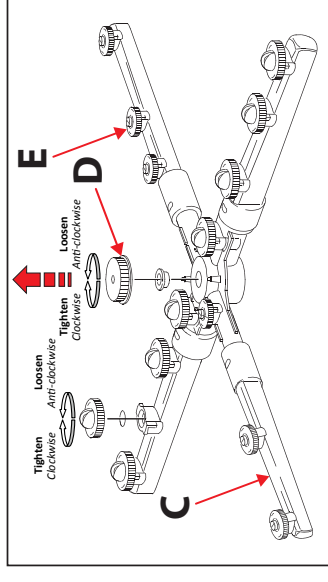

Fig.3
9. Remove the fixing screw (D) to remove the wash arms. Check that the nozzles (E) on the wash arms (C) are not blocked. The nozzles and wash arms can be removed for cleaning. See Fig.3